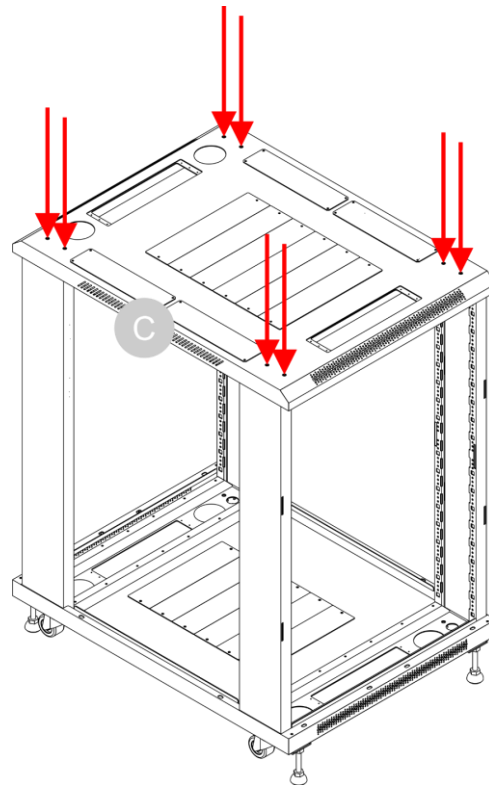

Fig. 28
- 12) Attach the 4 corners of the **top plate (C)** to the 2 **frames (B)** with 4 x 2 **screws (M)**, as shown in Fig. 28.